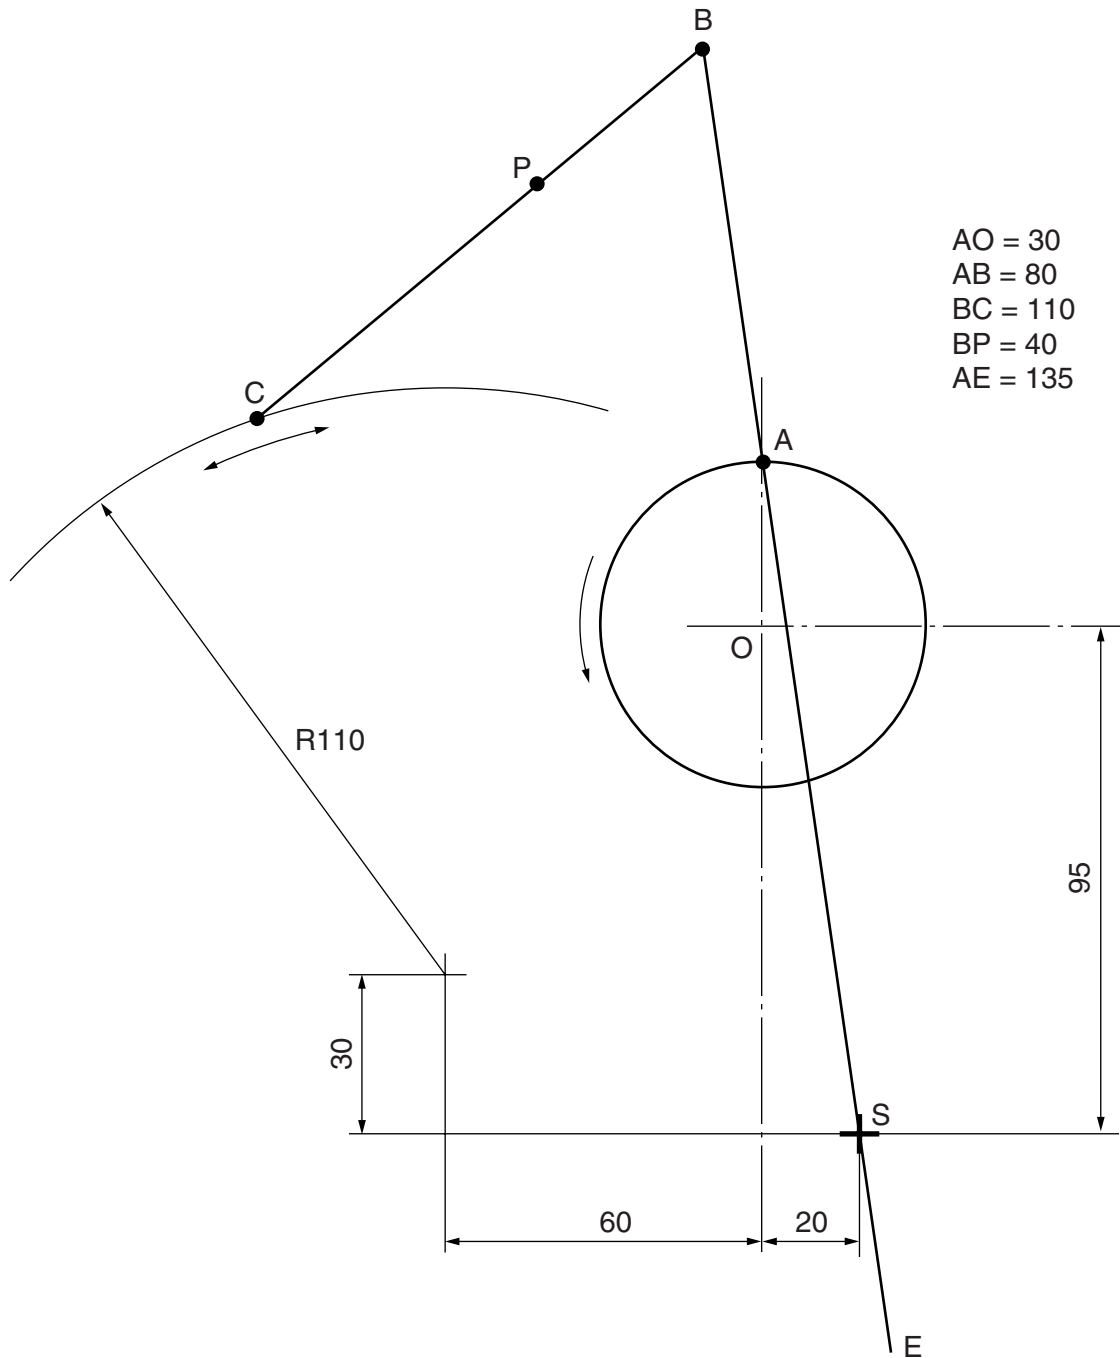

Fig. 2
- 2 Fig. 2 represents the diagrammatic arrangement of a mechanism in which O is a fixed centre about which a disc of radius OA rotates. The rigid link BE is attached to the disc and the rigid link CB by pivot joints at A and B. A fixed point S allows link BE to pivot and slide as OA rotates. Simultaneously C is constrained to reciprocate along the R110 arc.